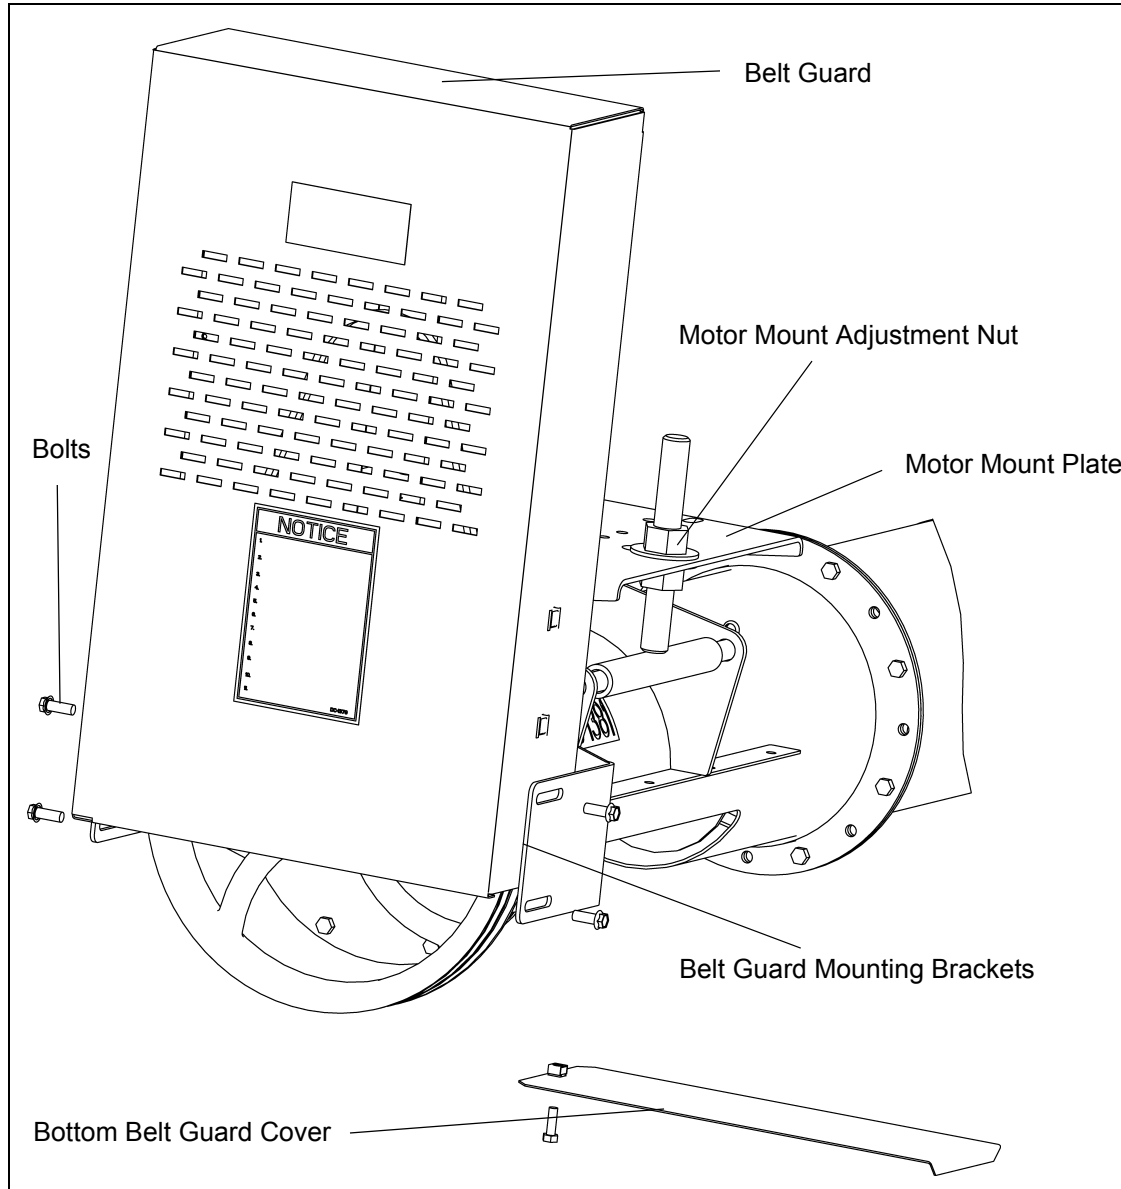

Figure 4U
3. Align the motor shaft and the Flight Drive Shaft in the Belt Guard's slot, making sure that the Belt Guard DOES NOT contact either pulley, and tighten down the Belt Guard Mounting Brackets to the Bearing Plate (*See Figure 4U*).